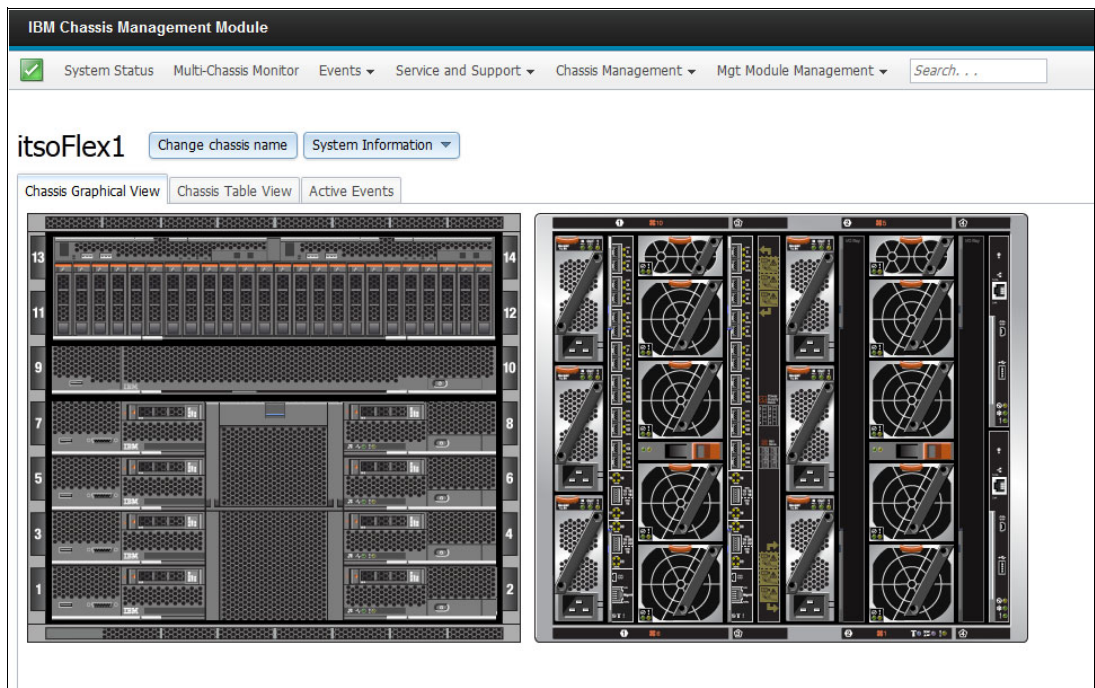

Figure 5-47 8-socket scalable connector attaching nodes in bays 1-8
4. An example of an 8-socket (x880 only) system CMM chassis view is shown in Figure 5-47. If you are upgrading from a 4-socket complex to an 8-socket complex, ensure that all nodes are powered off, remove the 4-socket connector, and then install the 8-socket connector.